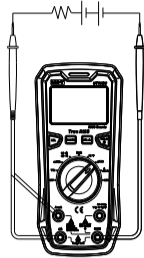

Figure 3
8. AC/DC Current Measurement (Figure 3)